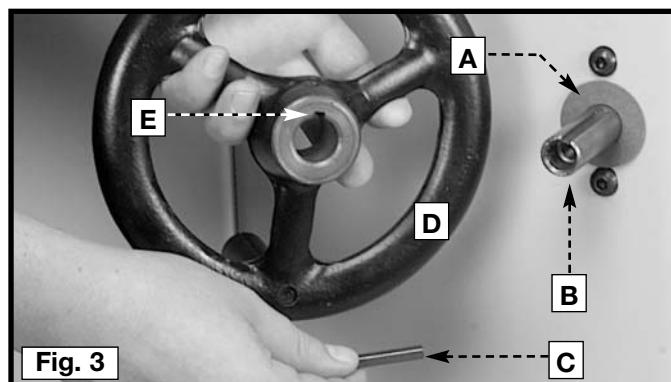

Fig. 3
1. Install the fiber washer (A) Fig. 3 on the shaft (B). Install the key (C) into the shaft keyway.
2. Place the handwheel (D) on the shaft (B) Fig. 3. Align the groove (E) in the handwheel with the key (C).